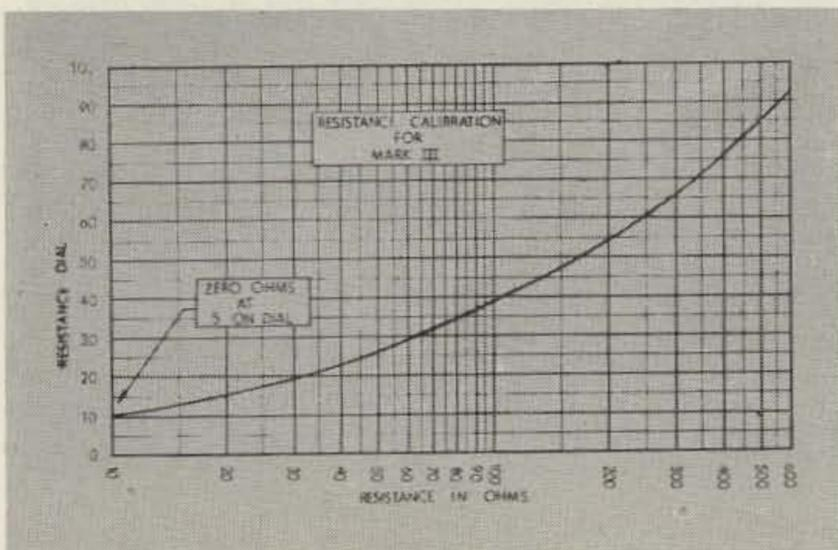

Fig. 6
* This author hand engraved these dials per Figs. 6 and 7.